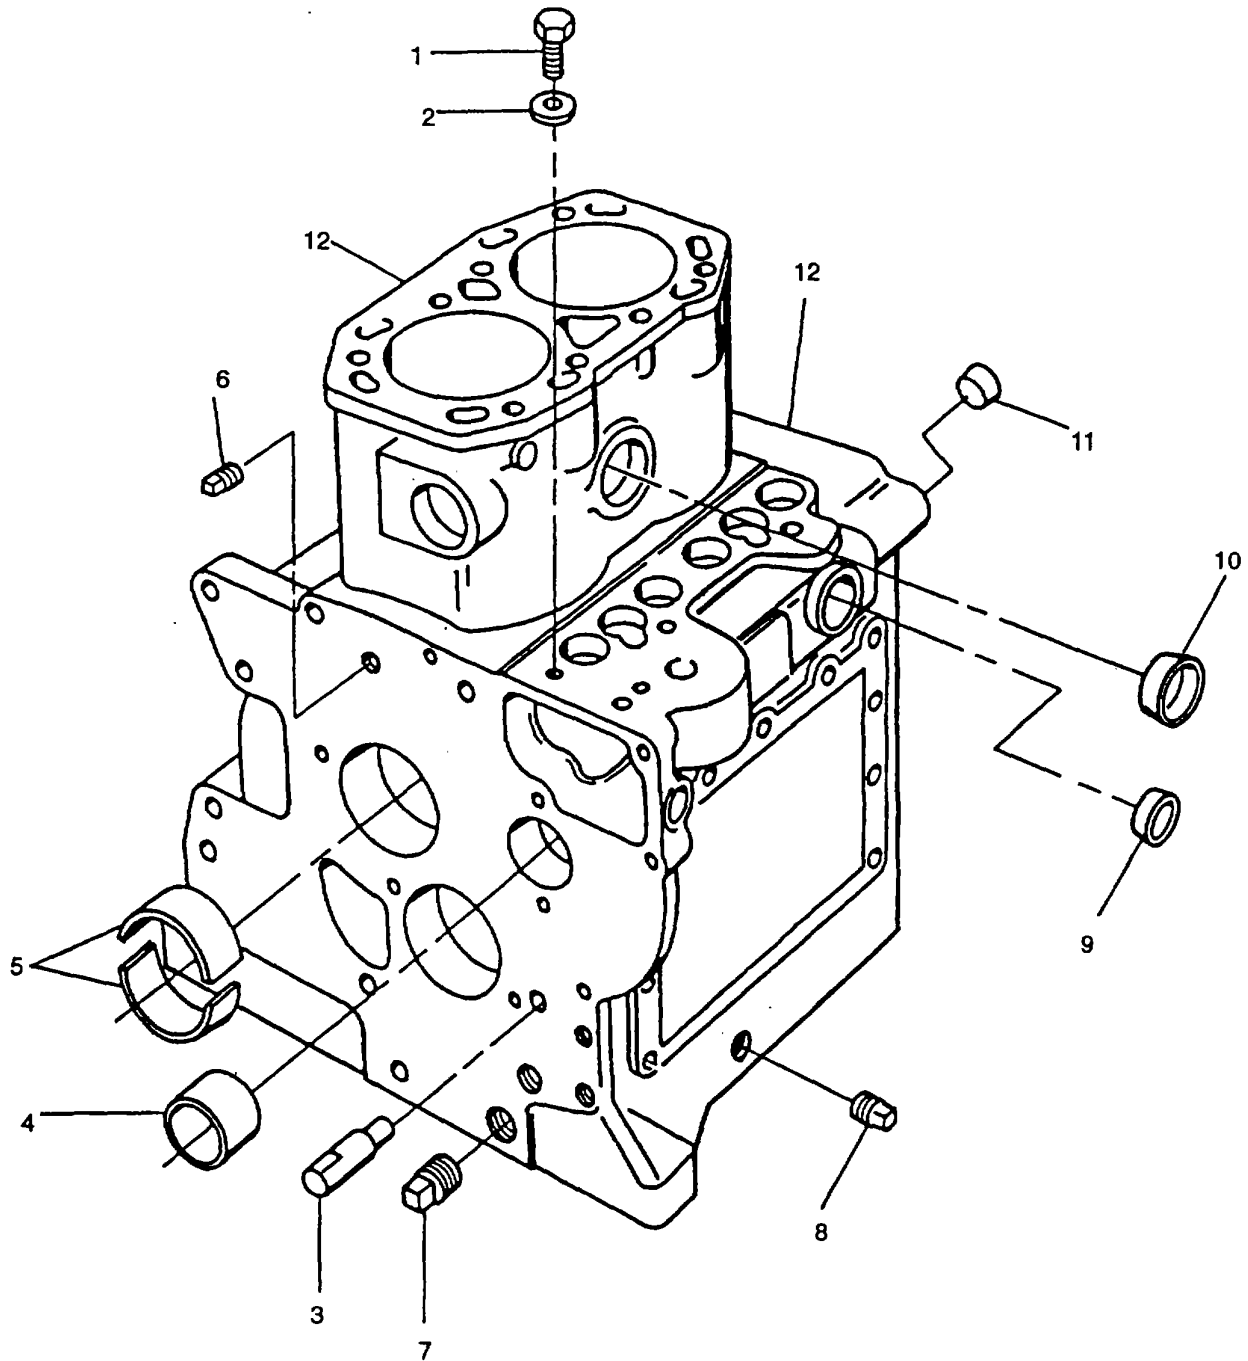

FIGURE 3-43. Crankcase Assembly
- a. If damaged, remove two capscrews (1, FIGURE 3-43) and copper washers (2).
- b. If damaged, remove two pivot supports (3).
- c. Using camshaft bushing tool (317-50106), remove camshaft bushing (4) as follows:
- (1) Install guide into bushing (4) from inside crankcase.
- (2) Install slide hammer onto guide threads.
- (2) Install bolt and dolly into bearing (5, FIGURE 3-43) from oil seal side (crankcase outside face).
- (3) Install bridge over bolt threads until two legs are against crankcase.
- (4) Install spacer onto bolt.
- (5) Use a suitable wrench to tighten nut until bearing shells are withdrawn.
- (2) Place new bearing shells (5, FIGURE 3-43) into collar ensuring that one oil feed hole is in line with pilot pin and end of shell is in line with mark on collar face.
- (3) Place driver onto collar with cutout on driver located over collar pilot pin.
- (4) Push driver sufficiently until bearings come out other side of collar to provide a lead in.
- (5) Install assembly into crankcase from gear end with pilot pin in line with the oil feed hole in crankcase.
- (6) Place bolt through assembly.
- (7) Install bridge, spacer, and nut onto bolt.
- (8) Tighten nut until driver is against face of collar.
- (9) Remove tool.
- (10) that oil hole in bearing shell (5) is correctly aligned with oil feed hole in crankcase.
- h. Using camshaft bushing tool (317-50106), install camshaft bushing (4) as follows:
- a. Clean block (12, FIGURE 3-43) thoroughly using dry cleaning solvent (P-D-680), pressure steam, or a hot tank.